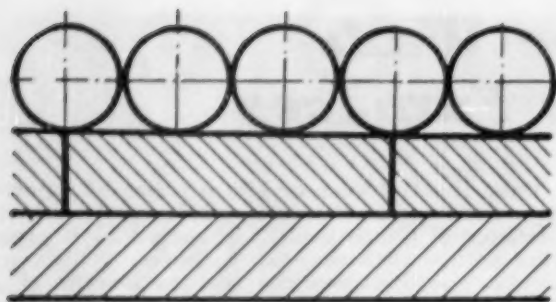
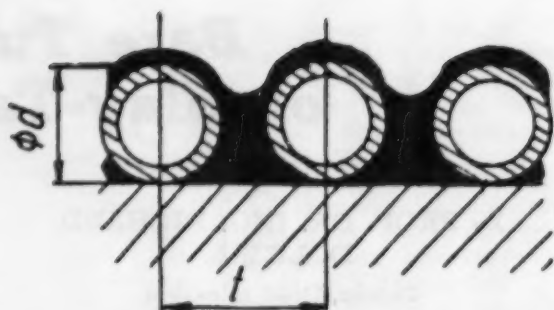

Fig. 2—Recent Czech practice in slag-tap furnace construction employs the bare tubes alone placed on close centers
Fig. 3—Czech boiler wall design establishes a ratio of  $t/d$  where  $t$  = center to center spacing and  $d$  = tube dia.
Recent practice in large boiler construction has been to employ bare tube walls with the tubes on close center spacing. This construction applies especially where tubes are relatively inexpensive. In such cases if the ratio of  $t/d = 1$  (where  $t$  = center to center spacing, Fig. 3, and  $d$  = tube dia.) fins need not be used, Fig. 2. Such a wall behaves the same as a finned wall as far as slag buildup is concerned.
stances bare tube walls with tube spacings larger than the tube diameter,  $t/d > 1$ , experienced a molten slag action that not only covered the tubes but filled in the inter-tube space, Fig. 3, so the refractory behind the tubings was undamaged. In a specific case (3) where good results were obtained with such a wall the tubes had a 70-mm dia. and a spacing of 110 mm, i.e., a  $t/d$  ratio of 1.57. The simple bare tube wall is a considerable advantage over the more complex finned tube design.
directed toward the center of the combustion space and inclined against the slag bath. Originally, Fig. 3, the walls were made of bare riser tubes of 70-mm dia. with a center spacing of 120 mm to give a gap of about 50 mm between adjacent tubes. The  $t/d$  ratio was 1.7. On the outside the wall was faced with refractory bricks of a thickness of about 60 mm. These bricks, bolted to the tube walls, were covered with a thin layer of asbestos and then another layer roughly 60 mm deep, of slag wool. The entire boiler was encased in sheeting of about 3-mm thickness.